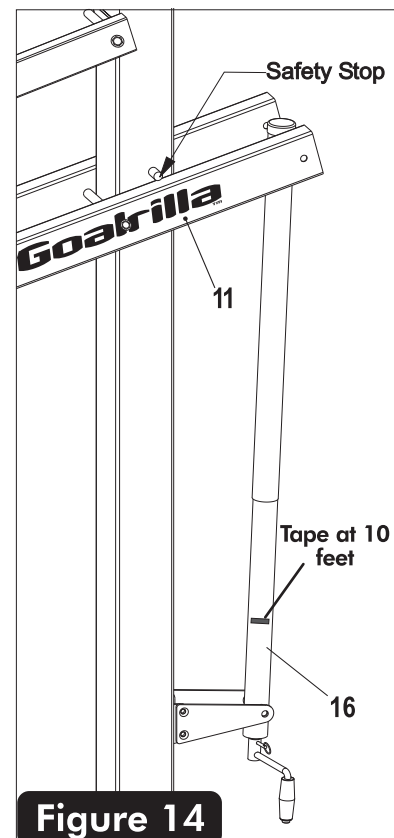

Figure 14
24. Lower backboard all the way down. Do not force actuator once backboard is in it's lowest position. See **Figure 14**.